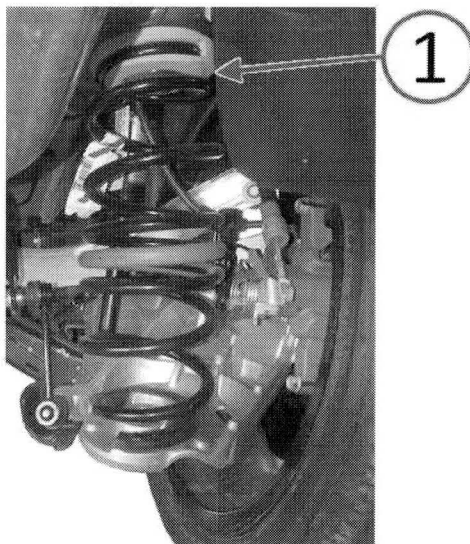

Fig. 1 Spring Seat Upper Isolator
1. Inspect the positioning of the right side rear suspension spring in the upper spring seat isolator (Fig. 1).